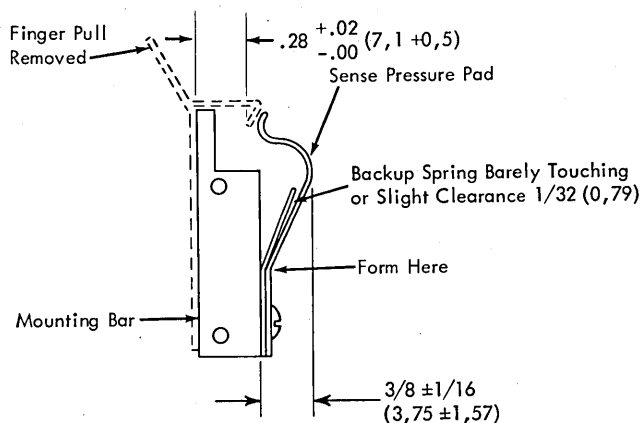

Figure 4-94. Sense Pressure Pad Adjustment
*Spring Adjustment:* The nominal setting of spring projection is  $3/8 \pm 1/16$  in. ( $3,75 \pm 1,57$  mm) as shown in Figure 4-94. This adjustment can be changed by forming the spring in the area shown. Forming the spring to this tolerance is not necessary if correct pressure can be attained with the eccentric adjustment.